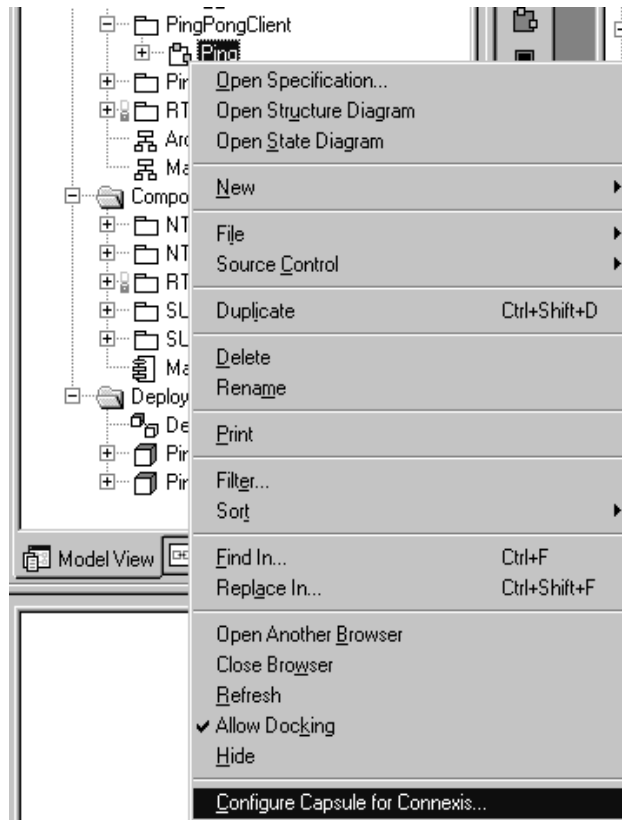

Figure 35 *Configuring the Ping Capsule*
1. Right-click the Ping capsule as in Figure 35.